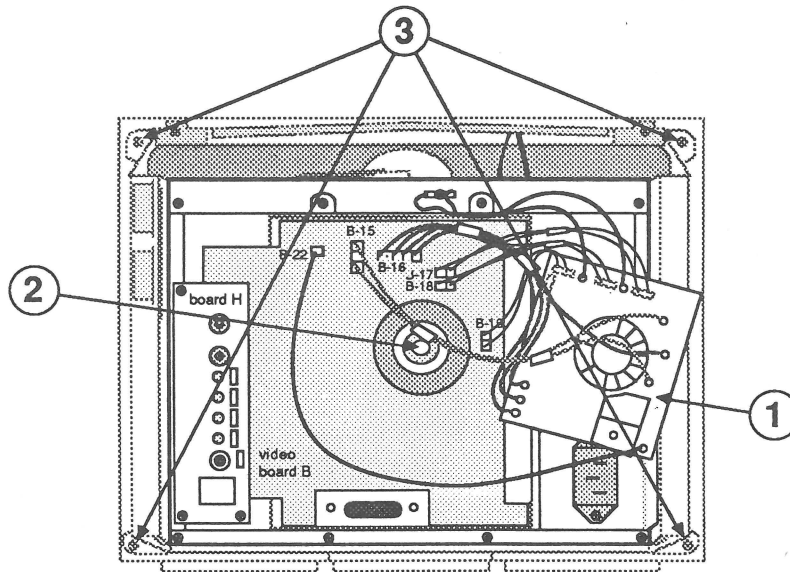

FIGURE 38
10. Carefully pull video board "C" (Figure 38, #1) off the neck of the CRT (Figure 38, #2).
12. Remove the four corner screws (Figure 38, #3) that secure the metal chassis frame to the front bezel. Lift off the frame (with attached modules).
2. Fit the metal chassis frame (with attached modules) into the front bezel as shown in Figure 38.
3. Replace the four corner screws (Figure 38, #3) that secure both the metal chassis frame and the CRT to the front bezel.
4. Carefully replace video board "C" (Figure 38, #1) on the neck of the CRT (Figure 38, #2). It fits only one way.